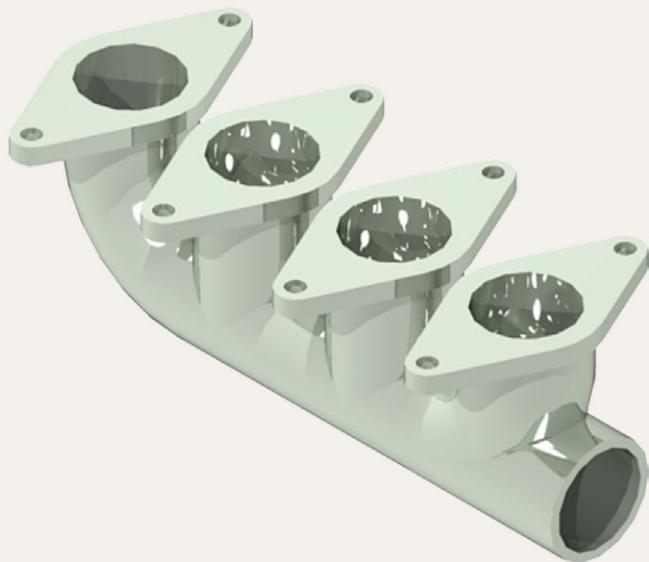

**Fig. 19.21** Exercise 2 – orthographic projection
2. Fig. 19.20 shows a rendering of the model for this exercise and Fig. 19.21, an orthographic projection, giving shapes and sizes for the